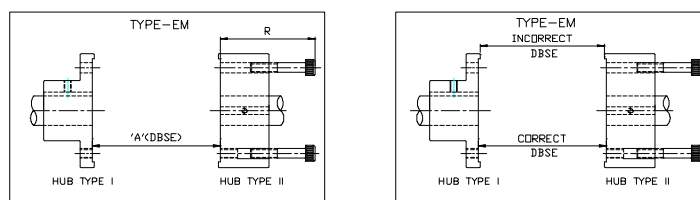

Fig. 6
4. Mount the HUBS on corresponding shafts with the help of the keys & set screws. For HUBS type II min. bolt clearance 'R' is required for disengagement of the spacer assembly. So confirm the distance 'R' before mounting the HUBS as shown in fig 6. Value of R is given in respective catalogue.